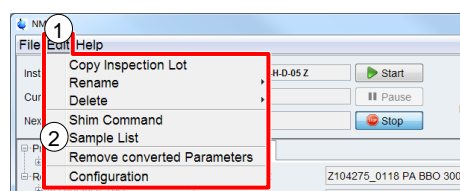

Figure 3-8: Open Sample List
9. In Menu Bar, select **Edit** menu shown in Figure 3-8 (1) and click **Sample List** (2). The Sample List dialog opens up.